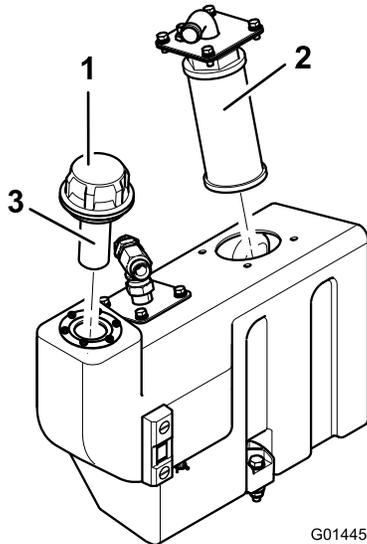

Figure 75
1. Remove the oil tank suction flange to gain access to the suction strainer (Figure 75).
2. Unscrew and remove the strainer and clean with paraffin or petrol before installing (Figure 75).